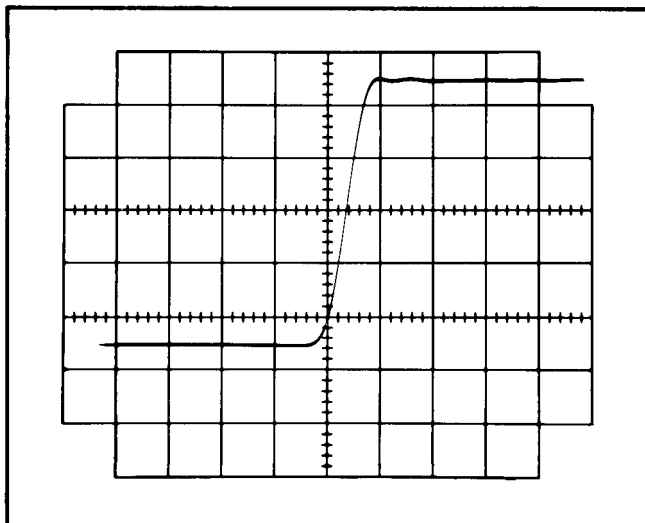

Fig. 5-13. Correct positioning of Upper Beam waveform for risetime check.
- a. Requirement—Risettime of the 10% to 90% portion of the rising portion should be 6.93 nanoseconds or less with the test load unit pulse risetime of 3 nanoseconds. Fig. 5-13 shows a typical display.
- c. With the TRACE SEPARATION and Upper Beam POSITION controls, position the Upper Beam 5-cm display so that the 10% point on the rising portion of the waveform crosses the intersection of the Upper Beam graticule center horizontal line with the graticule center vertical line. Fig. 5-13 shows the correct positioning of the display.